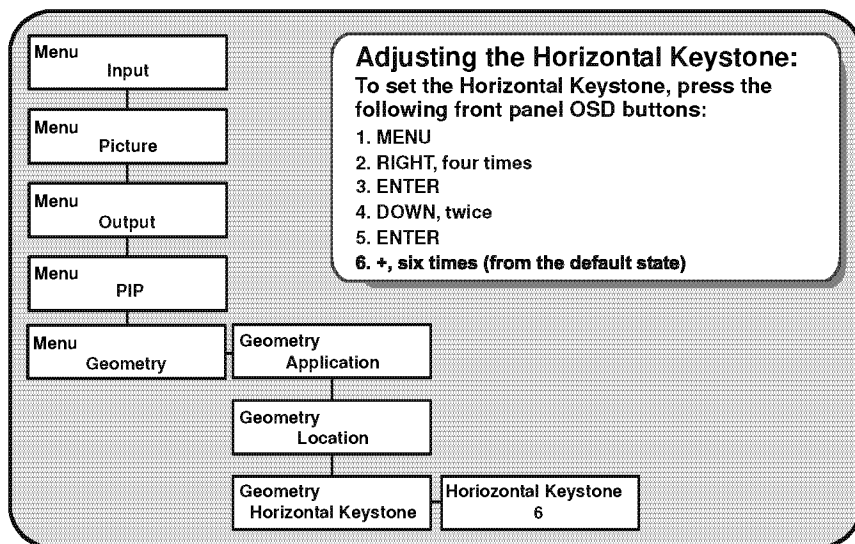

Figure 19: Example of how to use the LCD Display
2. Press the appropriate front panel OSD buttons (as defined in Figure 19).